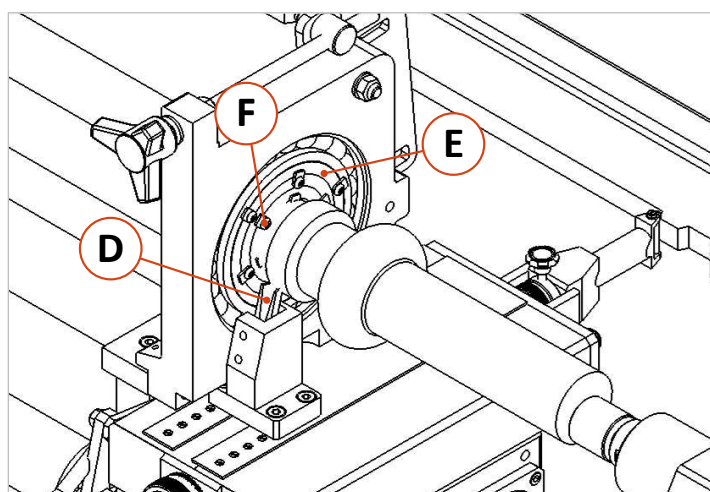

Figure 21: Movable steady rest "machining"
Machining (⇒ Figure 21): The actual machining is done with the copying tool (D), which is attached to the transverse support on the other side of the steady rest. The rings (C) are fixed in the steady rest with the small plates (E) and screws (F). The shape for the workpiece is transferred by the sensor of the copying device on the basis of a template or sample.